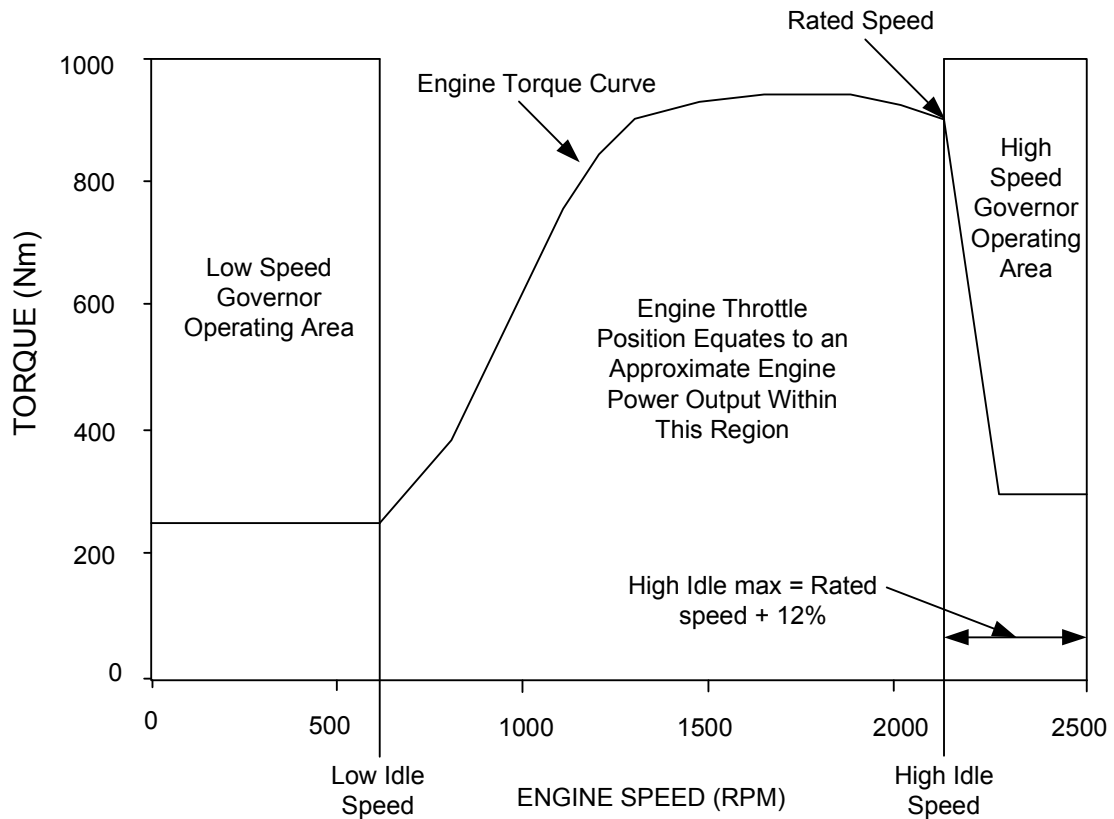

Figure 17.1 Min Max Governor Operating Regions
Figure 17.1 illustrates the Min/Max engine speed governor operation across the engine operating speed range. The curve is bounded by the rating torque curve between LI and Rated engine speed (RS) once above rated speed the HSG limit curve takes over. For a fixed throttle position, the Min/Max governor will deliver a constant amount of power proportional to the throttle position, the engine power output will remain fairly constant, and engine speed will vary with engine load.
Min/Max governing above the configured Rated speed (RS) is limited by the HSG limit curve. This region of operation is often referred to as the overrun region (shown in figure 17.1 as the High Speed Governor operating area). The HSG limit curve is always below the rated torque curve. This curve is linear and the slope of the line is determined by the configured Rated speed point (RS) and HI engine speeds (run out line).